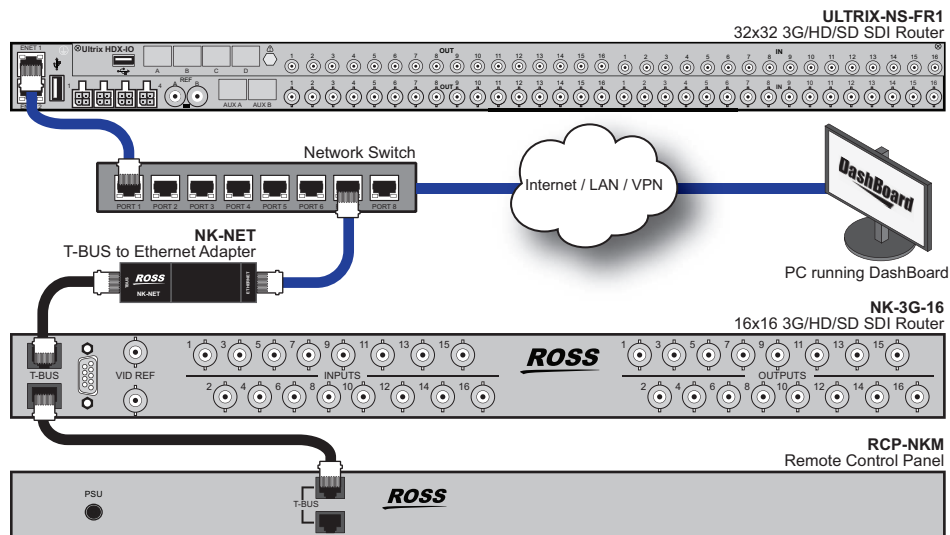

Figure 38 Connection Example with an NK-NET
- Connect the NK device to the same Ethernet network as your Ultrix router using an NK-NET or an NK-IPS, and then set up communications via the Ultracore interface in DashBoard. (**Figure 38**)
**Figure 38** provides an example of a system with an Ultrix and several Ross NK devices over T-Bus.